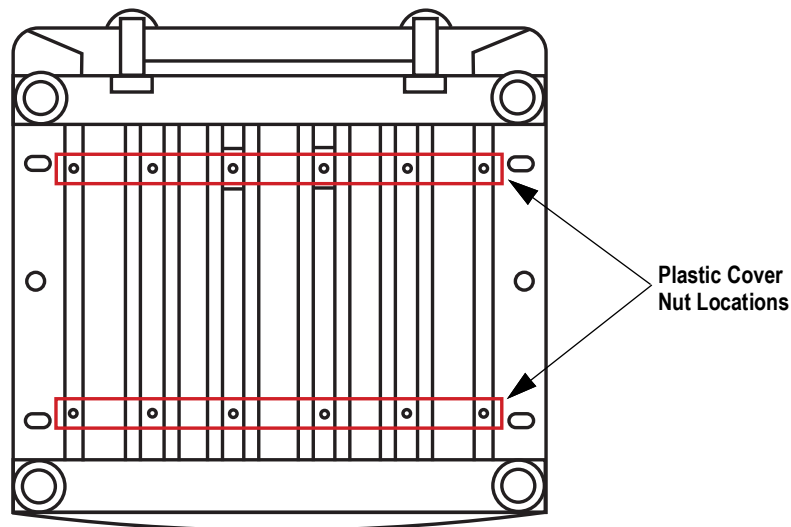

Figure 5. Plastic Cover Nut Locations
2. Remove the nuts and washers with an 8 mm socket wrench from the base (see Figure 5).